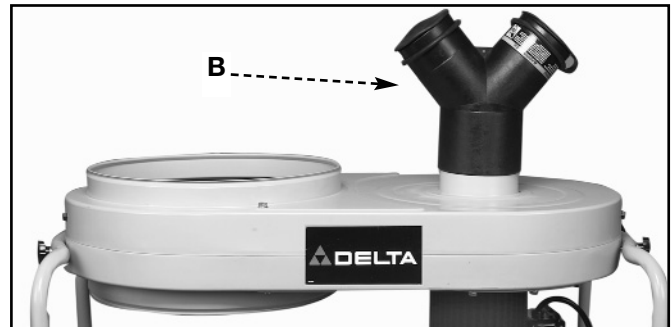
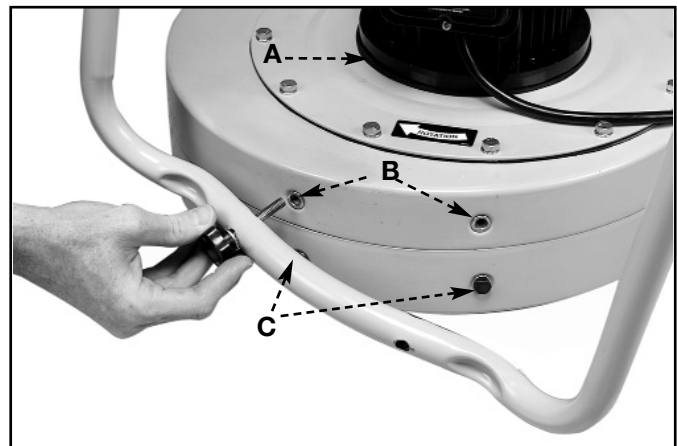

Fig. 5
Fig. 6
This unit can be assembled with the intake port (B) Fig. 5 in the up position by following the steps in “**LEGS TO MOTOR/BLOWER ASSEMBLY.**” The exception is to place the motor/blower assembly on a flat surface with the motor (A) Fig. 6 facing up before attaching legs.
**NOTE: BEFORE DOING THE ALTERNATE SETUP, REMOVE 5/16” HEX HEAD SCREWS FROM HOLES (B) (FIG. 6) IN MOTOR/BLOWER ASSEMBLY AND PLACE IN HOLES (C). AIR LEAKAGE WOULD OCCUR IF SCREWS ARE NOT PLACED IN HOLES (C).**